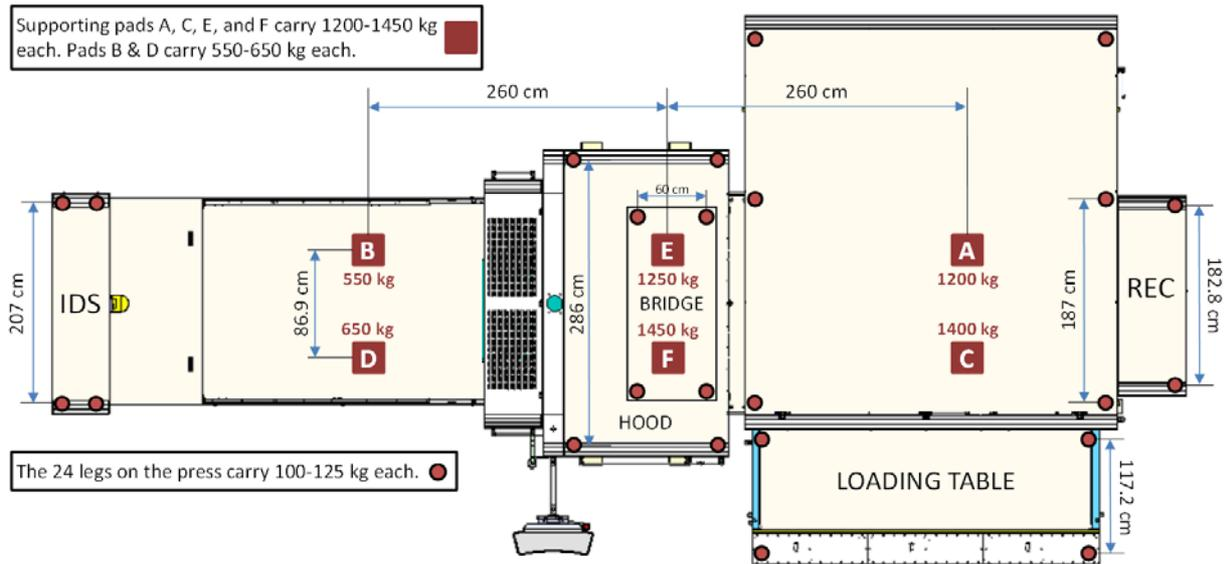

Figure 4-1 Leveling and Supporting Pads — Specifications
- The floor must be strong enough to support the machine while standing on its 6 supporting pads (see Figure 4-1) and 20 legs.
The floor of the print production area, as well as that on machine's way from the unpacking area, must be strong enough to support the entire weight of the printer, including all accompanying equipment (see Figure 4-1).